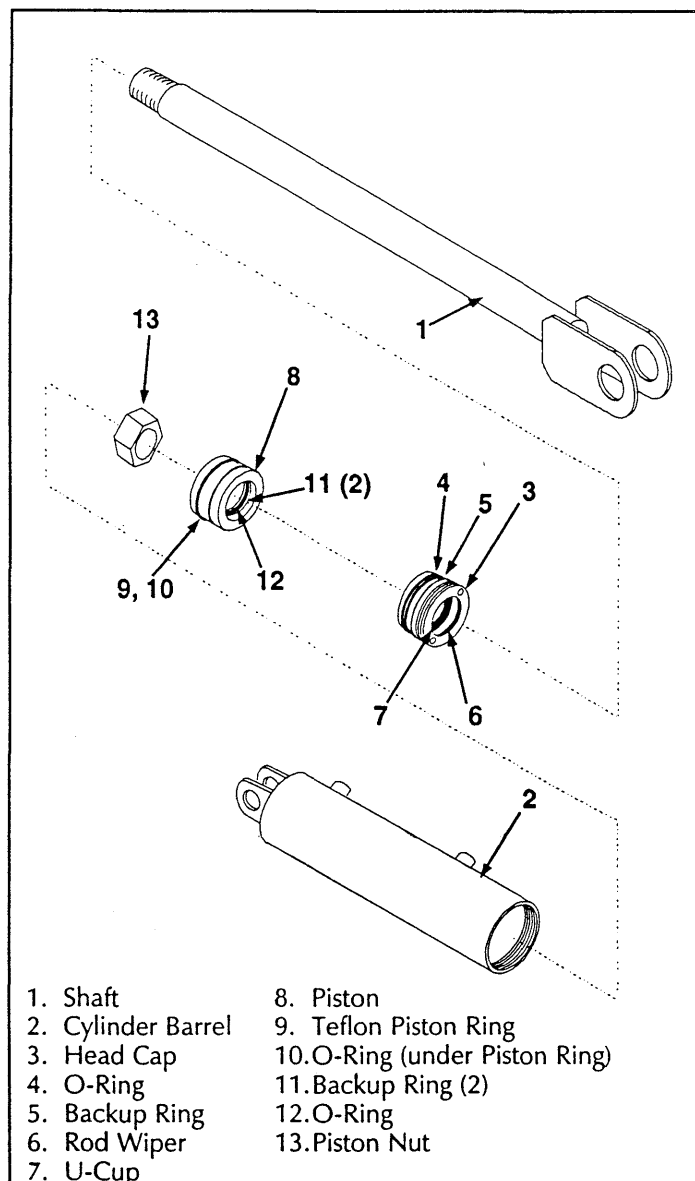

Figure 4-11: Brake and Steering Cylinder
4.11 Steering Cylinder (Figure 4-11)